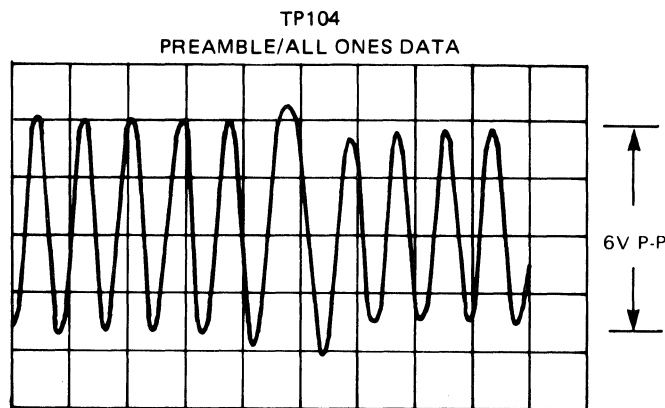

Figure 5-8. Amplifier Waveform (TP104)
- f. Read during write and adjust potentiometer R112 until the analog signal displayed on the oscilloscope is 6 volts peak-to-peak. (Refer to figure 5-8).